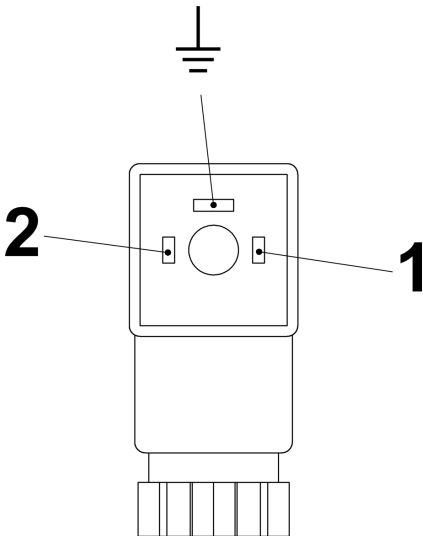
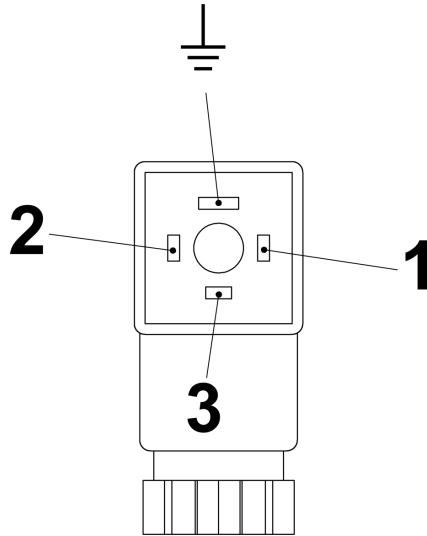

Fig. 24: Pin assignment, plug socket, Normally Open Contact (Form 15x50)
Fig. 25: Pin assignment, plug socket, Change-Over-Contact (Form 15x50)
6. ➤ Make the connections as shown in the connecting diagram (Fig. 24 und Fig. 25)